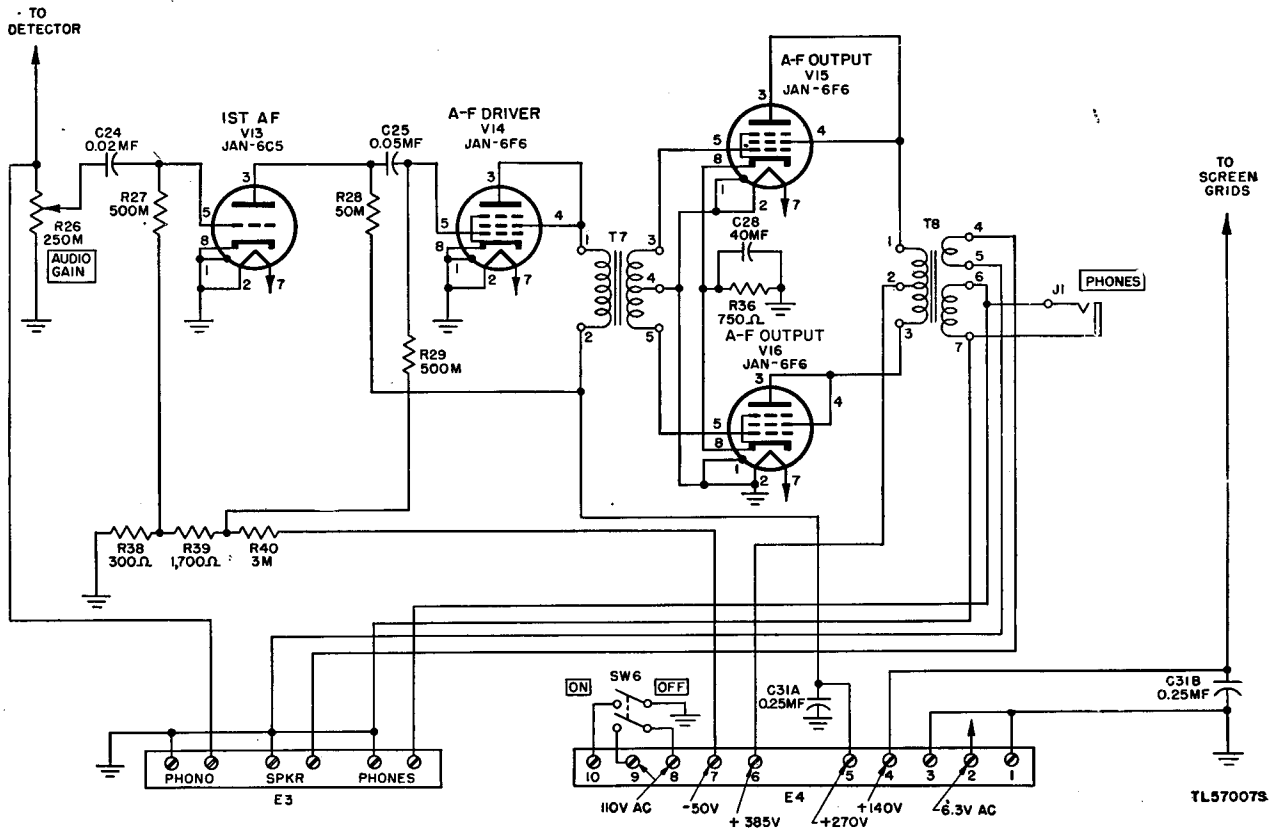

Figure 33. Radio Receiver BC-779-B, functional diagram of a-f amplifier stage.
a. The signal voltages across the untuned secondary of i-f output transformer L32 are applied to diode detector Tube JAN-6H6 (V8). The two diode sections are connected in parallel and the tube acts as a half-wave rectifier. The diode load is composed of 100,000-ohm resistor R48, 75,000-ohm resistor R24, 50,000-ohm resistor R25, and 250,000-ohm resistor R30 in series between L32 (point A) and the cathode of V8 (point C). The entire load resistance is bypassed by 50-mmf capacitor C44 which acts as an r-f filter. Two additional 50-mmf capacitors, C45 and C26, also provide r-f filtering. The rectified diode current passes through the load resistance, and the load voltage variations are a function of the modulation of an incoming signal. The voltage across R25 is taken as output voltage and applied to 250,000-ohm AUDIO GAIN potentiometer R26 (fig. 33).
67. A-F Amplifier (fig. 33)
a. An input transformer, T1, T2, or T3, is connected to the power source by 7-foot line cord W1 and is fused by 2-ampere (amp), 250-v fuse F1. Terminals 8 and 9 of terminal strip E1 are connected to terminals 8 and 9 of receiver terminal strip, E4 (fig. 33) by the connector cable. Closing receiver ON-OFF switch SW6 therefore completes the primary circuit of the transformer. The average power consumed is 180 watts.